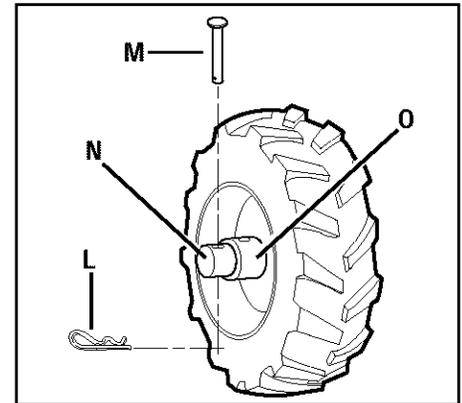

Fig. 2-3: Wheel in FREEWHEEL position (wheel drive pin through wheel shaft only).
2. Remove the hairpin cotter (L, Fig. 2-3) and wheel drive pin (M, Fig. 2-3) from the wheel hub (O) and wheel shaft (N).
3. Slide the wheel fully inward on the wheel shaft (N, Fig. 2-3). Reinstall the wheel drive pin (M, Fig. 2-3) through the wheel shaft only (not through the wheel hub). Secure the wheel drive pin with the hairpin cotter (L), pushing the hairpin cotter in as far as it will go. The wheel should now spin freely (freewheel) on the wheel shaft. Repeat with the other wheel.